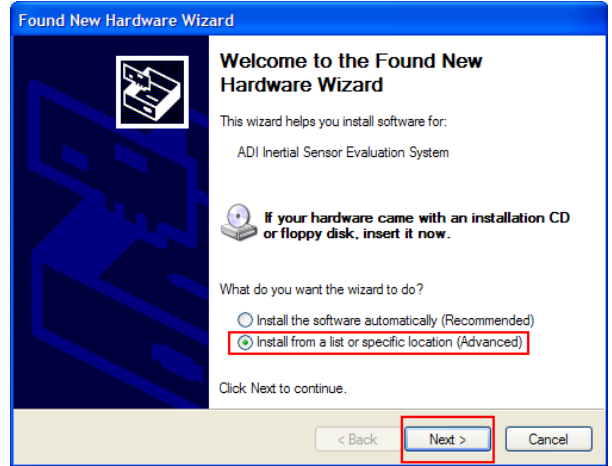

Figure 2. Found New Hardware Prompt
2. If prompted to install drivers, click **Install from a list or specific location (Advanced)** and click **Next >** (see Figure 2).